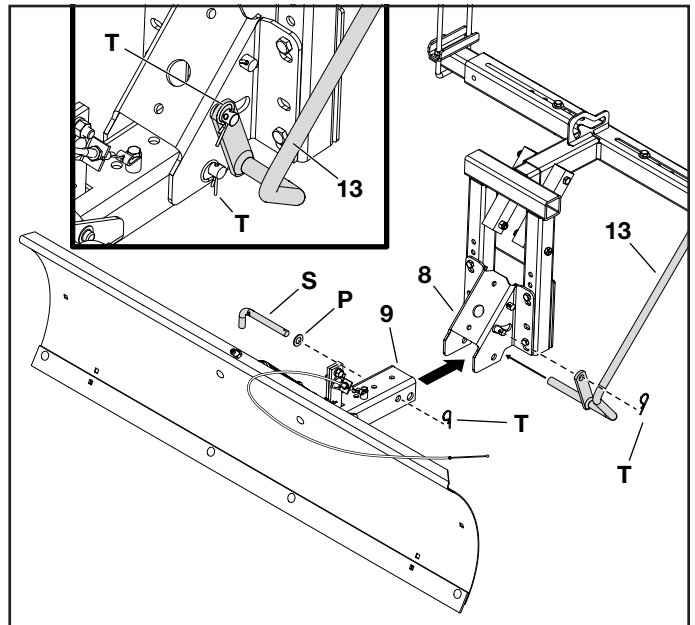

FIGURE 9
STEP 9: (SEE FIGURE 9)
- Slide the channel sub assembly (9) into the assembly pivot support bracket (8) on the blade mount assembly. Place a washer (P) on a channel pivot pin (S); then slide the channel pivot pin through the holes on both assemblies and secure with a hair pin (T).
- Insert the lift handle assembly (13) on the pivot support bracket assembly (8) as shown and then securing the lift handle assembly (13) using a hair pin (T).